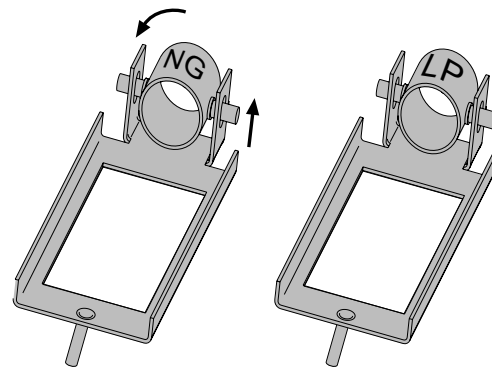

Figure 16. Air Shutter orientation must be changed for fuel type.
7. Change the Air Shutter position: Lift the shutter tube up in its hinge pin slots and turn the tube over, so that the appropriate fuel type indicator (LP or NG) is oriented facing you. See fig. 16. Push the shutter all the way back over the burner orifice.
THIS APPLIANCE IS SHIPPED FROM THE FACTORY EQUIPPED FOR USE WITH NATURAL GAS. IF CONVERTING TO PROPANE, IT WILL BE NECESSARY TO ADJUST THE AIR SHUTTER ON THE BURNER TUBE TO ACHIEVE THE PROPER GAS TO AIR MIX. SEE FIG. 16.